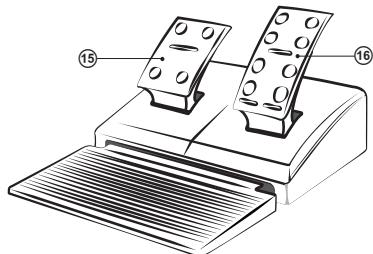

Fig. 3. Foot pedal unit
- Connect pedal unit to the device (Fig. 3) via cable of the pedal unit to RJ-11 jack1 ⑩, then connect USB cable ⑪ of the device to the USB port of the computer.